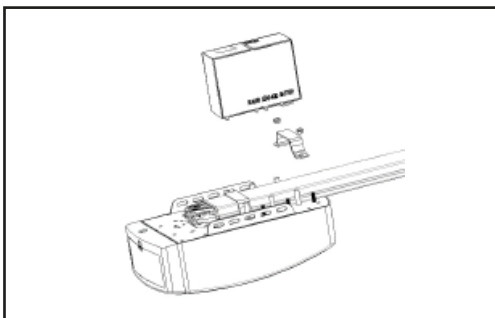

Figure 11
4) Tight the nut to the right position as shown in Figure 11, cut the plastic tape, cut the plastic thread on sprocket, then whole rail assembled finished.
STEP 1 (Figure11)